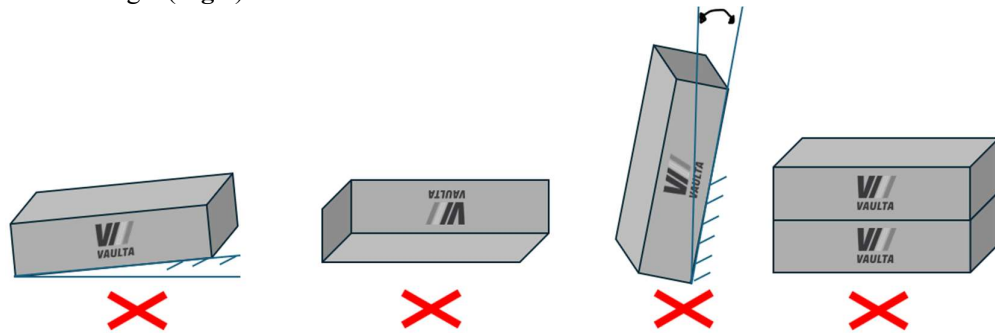

Fig 1. Prohibited positions
- The batteries should only be installed in the designated position. Never install the pack at an angle (**Fig 1**).